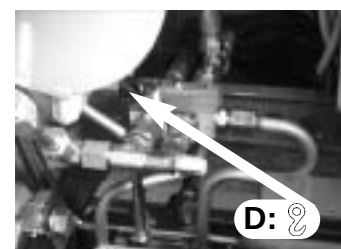

fig. 20a
- Lever **D** Deviator crane - outriggers (? - E/S). Fig. 20a-20b
- Unfold the crane into a working condition, positioning lever **D** of oil diverter crane-outriggers ( - **E/S**) on . Fig. 20a